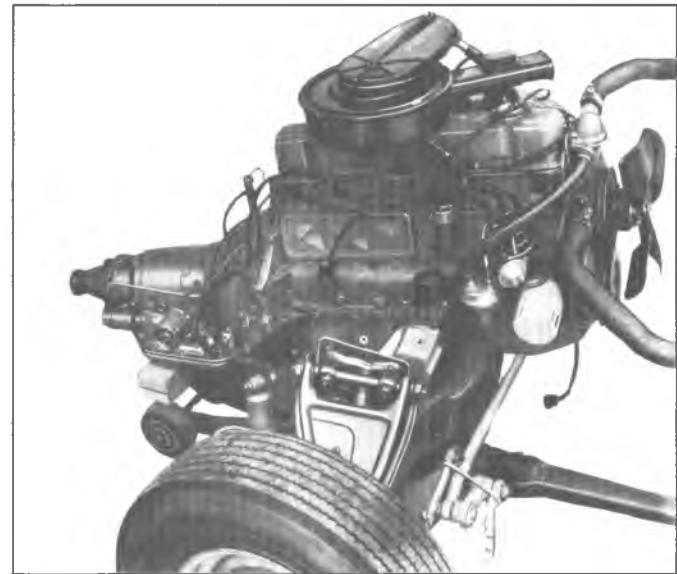

Fig. 5L—Floor Jack Location Under Transmission (L-6)
23. Install wood blocks between oil pan and crossmember to stabilize engine assembly (Fig. 5L).